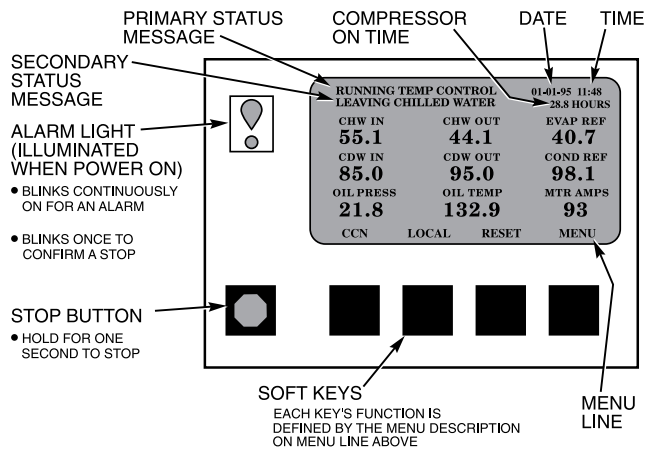

Fig. 13 — LID Default Screen
- The LID display will automatically revert to the default screen after 15 minutes if no softkey activity takes place and if the chiller is not in the Pumpdown mode (Fig. 13).